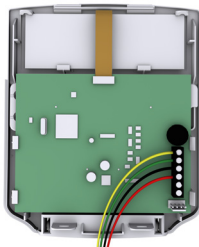

Figure 3: Wiring
3. Connect the 4-wire combus wires to the connector bus, as shown in figure 3.